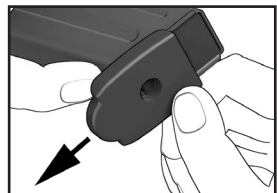

Figure 31
3. Slowly slide the floorplate forward off the magazine housing (see Figure 31).